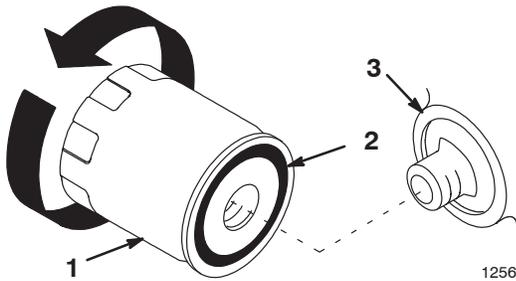

Figure 17
9. Change the oil filter, if necessary (Fig. 17).
2. Remove the old oil filter and wipe the filter adapter (Fig. 17) gasket surface.
3. Apply a thin coat of new oil to the rubber gasket on the new oil filter (Fig. 17).
5. Turn the oil filter clockwise until the rubber gasket contacts the filter adapter, then tighten the oil filter an additional 1/2 to 3/4 turn (Fig. 17).